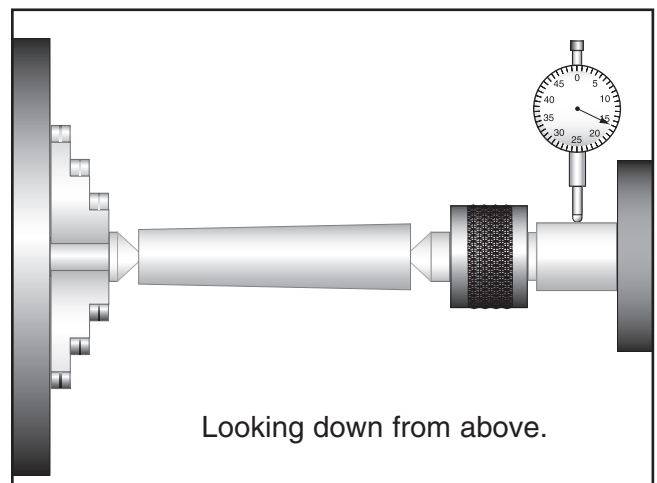

Figure 40. Adjusting for headstock end taper.
6. Mount a dial indicator so that the plunger is on the tailstock quill (see **Figure 40**).
7. Measure the stock with a micrometer. If the stock is wider at the tailstock end, the tailstock needs to be moved toward the front of the lathe the amount of the taper (see **Figure 40**).